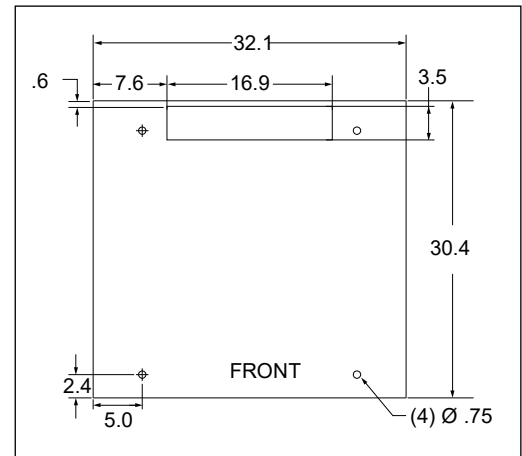

Figure 6 Mounting Dimensions (in inches) For SS4Bxxx Models
- Figures 6 and 7 show the required conduit openings and mounting hole dimensions for entering/mounting the bottom of the CUBE. Use these dimensions when designing the pad.